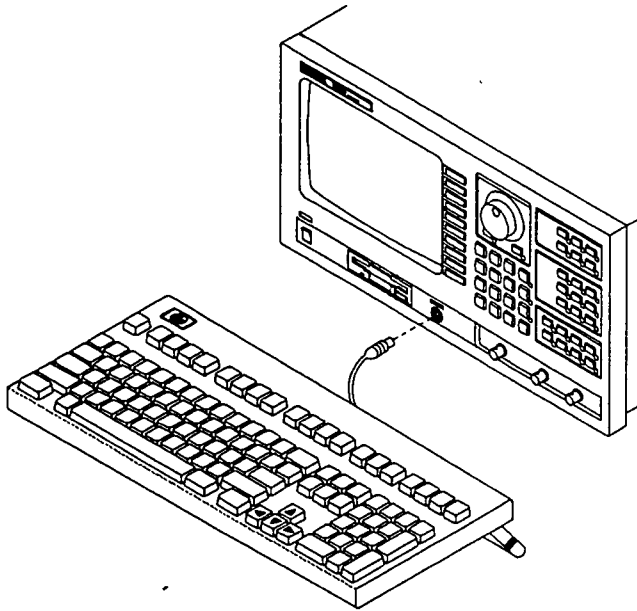

Figure 2-3. Connecting the Keyboard
If you have the PC Style Keyboard, option 1CL, set the power switch to STANDBY (0), then connect the keyboard to the analyzer using the keyboard cable (see figure 2-3). Make sure to align the round plug on the cable with the connector on the analyzer's front panel.